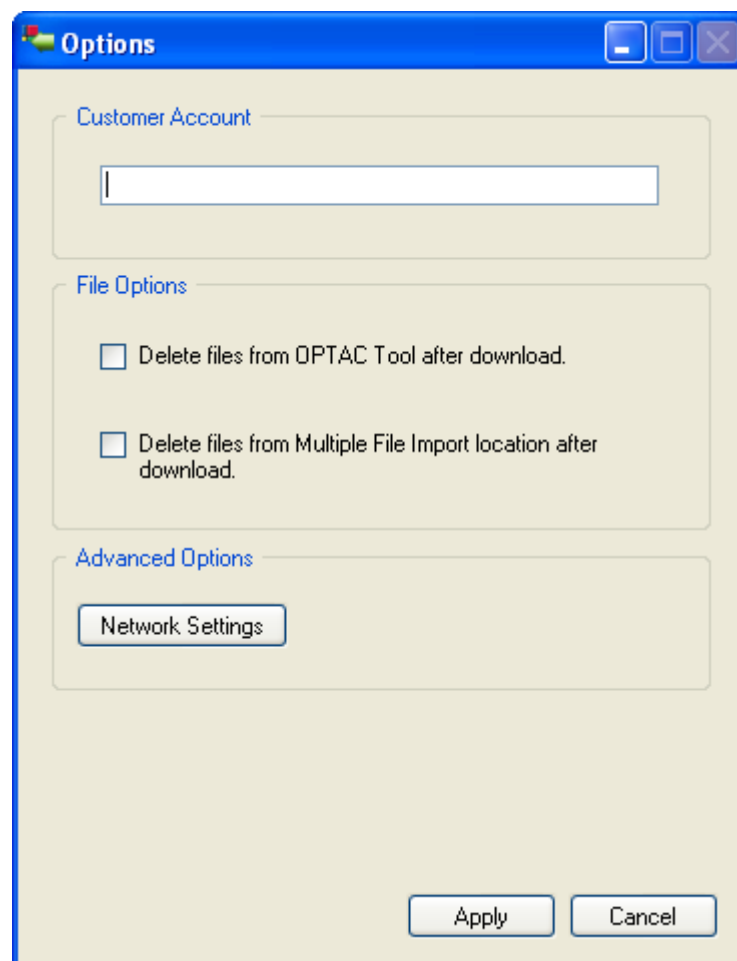

Figure 3
- 1.6. Click the Apply button to save these changes, this screen can be returned to by clicking the Options button as seen in *Figure 3*.